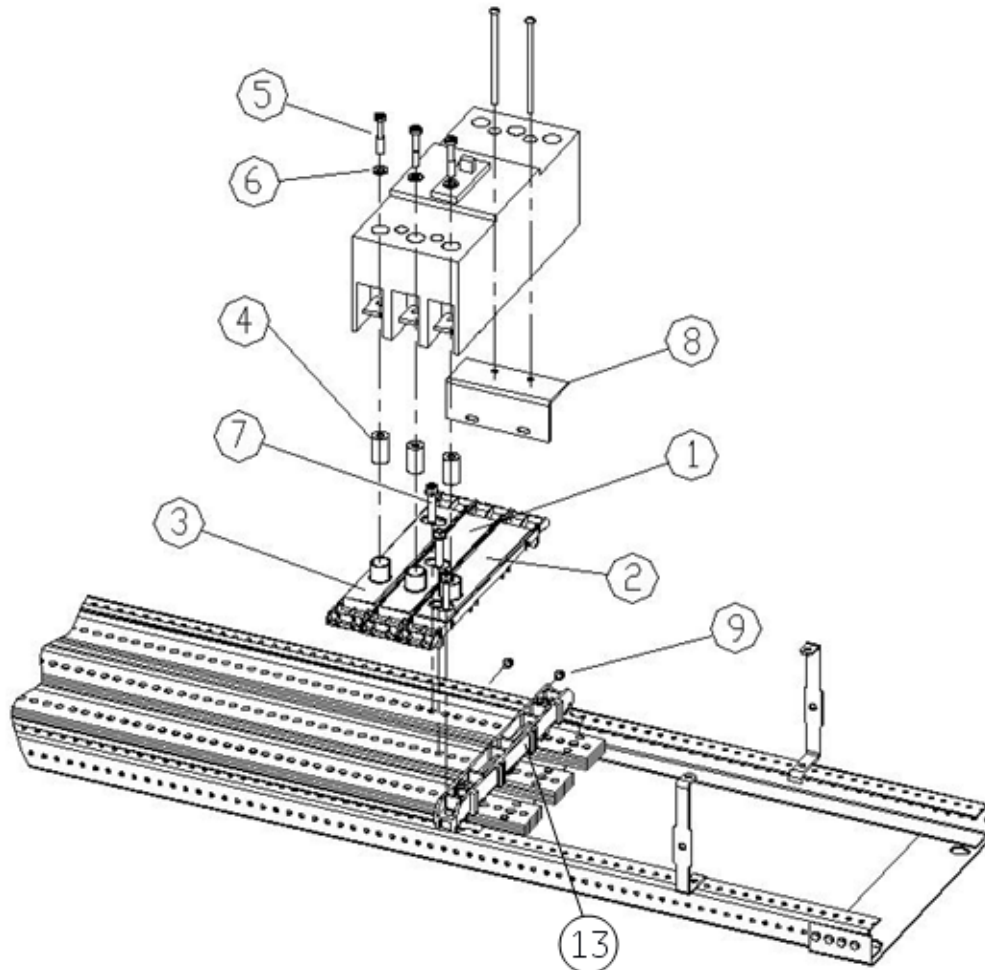
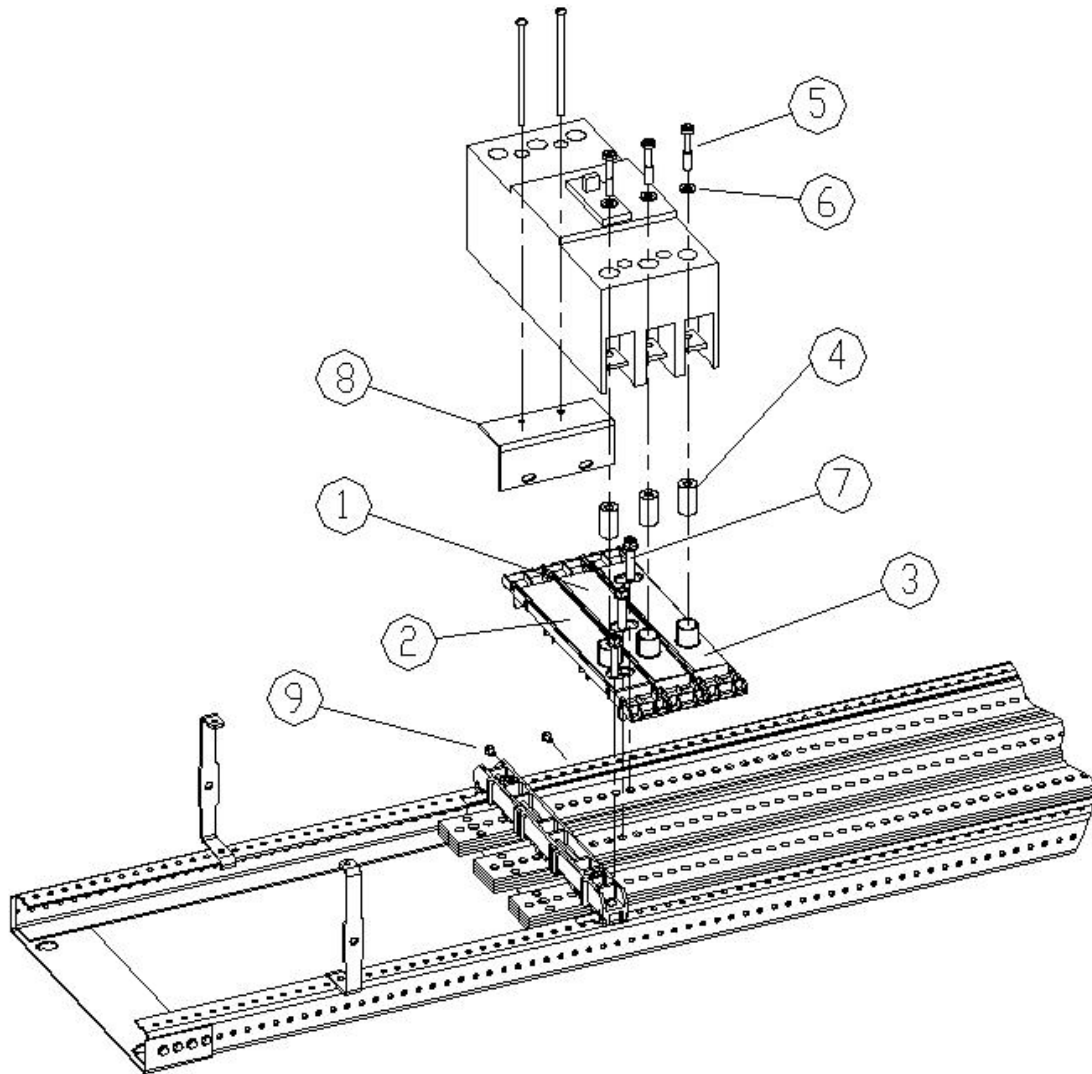

Figure 1. Installation of a SF circuit breaker kit on left side of interior, catalog number ASPP6SF3S, into an A-Series® II Panelboards.
Figure 2. Installation of a SF circuit breaker kit on right side of interior, catalog number ASPP6SF3S, into an A-Series® II Panelboards.
Use the following procedure to install a SF circuit breaker kit. Call-out numbers in the illustrations and numbers in brackets in the text refer to the Item Numbers in Table 1. Installation of a three-pole kit is illustrated in Figure 1 or Figure 2.
4. Refer fig. no.1 to mount the breaker on left side of interior. Place branch base for A phase [2] adjacent to cross bar [13] as shown in fig.1 and insert the screw [7] through slot provided for A phase to clamp it with main busbar. Similarly mount
B phase [1] branch base to B phase main busbar but adjacent to A phase branch base and C phase [3] branch base to C phase main busbar but adjacent to B phase branch base as shown in fig. 1. All phase branch bases [1],[2] and [3] should be clamped with main bus using screws[7] with 60 in-lb. Maximum.
- Refer fig. no.2 to mount the breaker on left side of interior. Place branch base for A phase[2] adjacent to cross bar[13] as shown in fig.1 and insert the screw [7] through slot provided for A phase to clamp it with main busbar. Similarly mount B phase [1] branch busbar to B phase main busbar but adjacent to A phase branch base and C phase [3] branch busbar to C phase main busbar but adjacent to B phase branch base as shown in fig. 2. All phase branch bases [1],[2] and [3] should be clamped with main bus using screws[7] with 50-70 in-lb.
7. Place the conical washer [6] over the three $\frac{1}{4}$ -28 x $1\frac{3}{8}$ screws [5] and insert the screws through the holes in the top of the circuit breaker. Secure the three spools [4] to the underside of the breaker terminal with the screws [5]. Take care to assemble the screws to the spools as shown in Figure 1 or Figure 2, with the tapped end of the spool toward the breaker terminal.